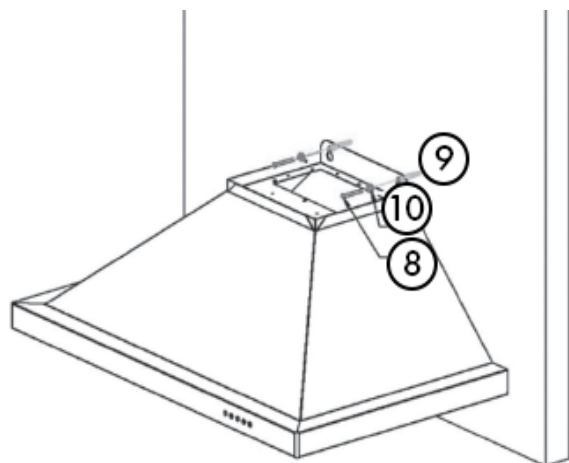

Figure 2
2. Drill holes into each mounting point with a suitable sized bit. Tap 2 anchors (Item No. 9) into the holes, then fasten 2 mounting screws (Item No. 8) and washers (Item No. 10), making sure to leave the screw heads out roughly 1/4" (6 mm) in order to mount the hood. *Figure 2*
5. Using at least two people, mount the main body of the hood onto the two screws and slide into place. *Figure 2*